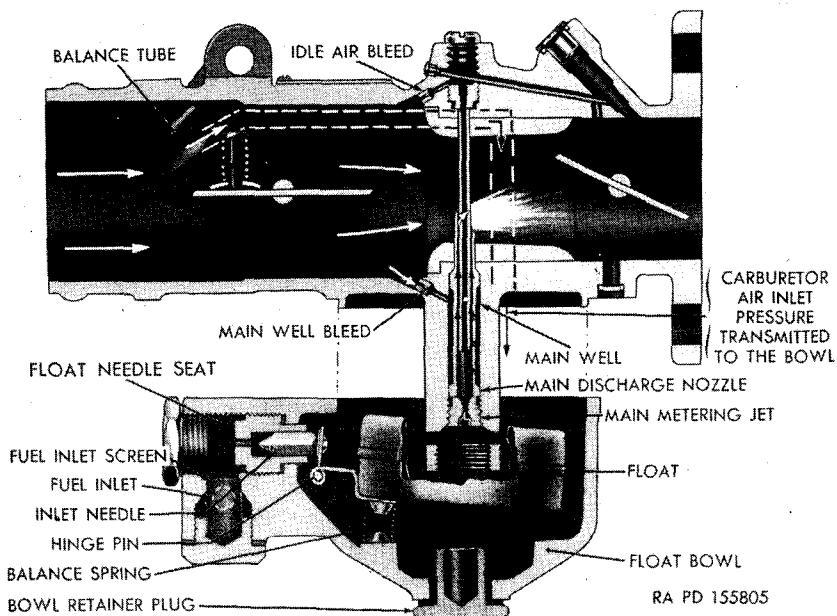
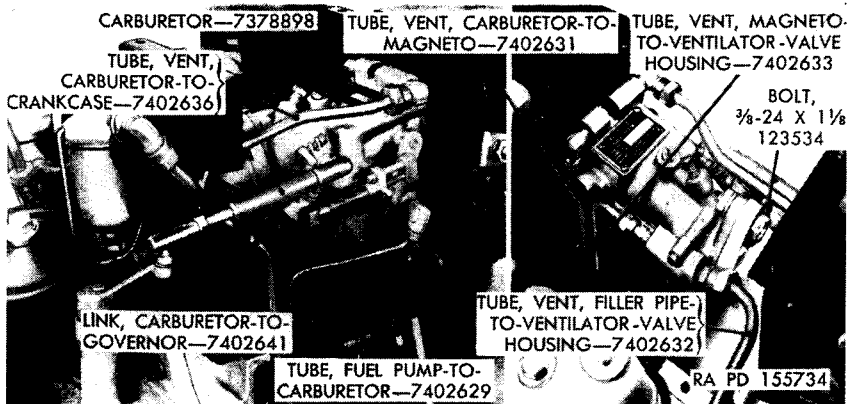

Figure 11. Float mechanism and main nozzle operation.
Figure 18. Carburetor.
- (a) The carburetor (figs. 11, 12, 13, and 14) is a concentric, balanced, sealed carburetor with a single horizontal barrel and is designed for use with a governed, single-cylinder engine. Its operation and design are similar to the conventional automotive type with the exception that some minor alterations have been made to make it more adaptable for the intended service.
- (d) The fuel inlet and float bowl are located in a separate casting which is attached to the remainder of the carburetor (fig. 11). The float bowl is of a concentric design so as to produce uniform mixture control as the carburetor assumes various angles of tilt in service. This control is obtained because the elevation of the nozzle relative to the fuel level remains constant with normal inclinations of the carburetor. The fuel nozzle is located over the center of gravity of both the float ponton and the fuel in the bowl.
- (e) The carburetor is balanced so that the air pressure producing air flow is picked up at the balance tube and transmitted through the passage to the bowl where it acts on the fuel (fig. 11). This type of balance compensates for any change in air cleaner restriction; for example, when the cleaner accumulates dirt. Any cleaner which tends to choke air flow will also cut down fuel flow proportionally to produce a uniform mixture. Choking is still possible since the balance tube is located ahead of the choke valve and thus this valve restricts air flow only.
- (2) *Float mechanism.*
- (a) Fuel enters the carburetor through the fuel inlet (fig. 11) and passes through the cylindrical screen. Fuel level in the bowl is controlled by the float which pivots on the hinge pin and forces the float needle against its seat when a predetermined level is reached. This level should be about $\frac{5}{16}$ inch, or between $\frac{1}{4}$ and $\frac{3}{8}$ inch from the top of the bowl gasket surface. Since this measurement cannot easily be made, the level may be adjusted mechanically at time carburetor is assembled (par. 101). With this adjustment, the float should maintain the prescribed fuel level if the float does not bind in any position and has not lost its buoyancy through leakage.
- (3) *Metering system.*
- (a) The carburetor uses the restricted air-bled-jet operating principle. Fuel passes from the bowl into the main metering jet and nozzle support (fig. 11). Fuel flow is controlled by the accurately calibrated main metering jet as the fuel passes into the nozzle. Around the outside of the nozzle is the main well which communicates with the inner nozzle well through three radial holes in the nozzle. Any suction on the main well is bled to the air horn through the main well.
- (b) Crankcase vapors are drawn from the crankcase and from the magneto through the filler pipe-to-ventilator valve housing and the magneto-to-ventilator valve housing tubes respectively (fig. 18) into the carburetor body by manifold vacuum. These crankcase vapors pass into the engine with the fuel and air mixture supplied to the engine by the carburetor. Fresh filtered air in turn is supplied to the engine crankcase by means of two balance tubes (figs. 11, 12, and 14) incorporated in the intake side of the carburetor body, thence through carburetor-to-crankcase
a. Remove vent tube between carburetor and engine front cover (fig. 18).
b. Loosen two vent tubes between carburetor and magneto at carburetor end (fig. 18).
c. Disconnect fuel-pump-to-carburetor tube (figs. 18 and 25) at both ends but do not remove from magneto cover.